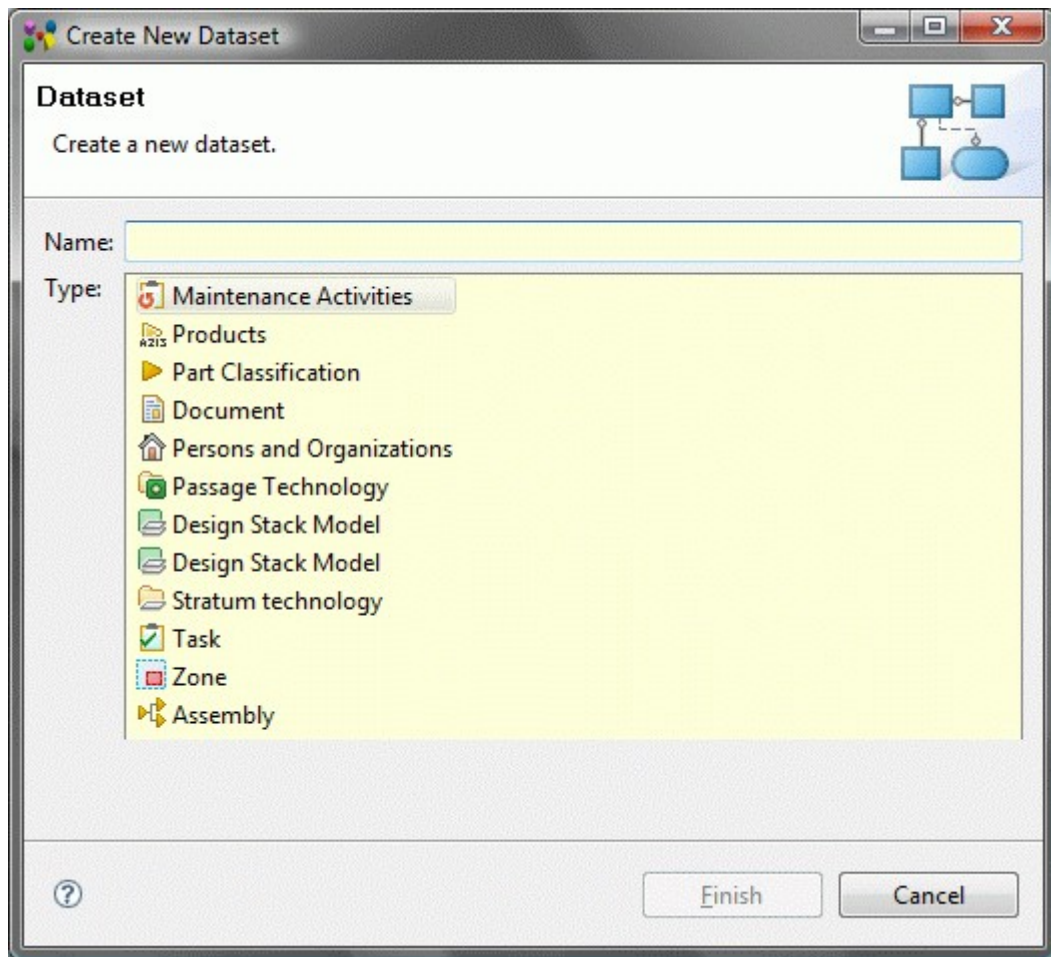

Figure 2. Create New Dataset wizard window
- Select  **New dataset** menu item. The **Create New Dataset** wizard window appears (see Figure 2):